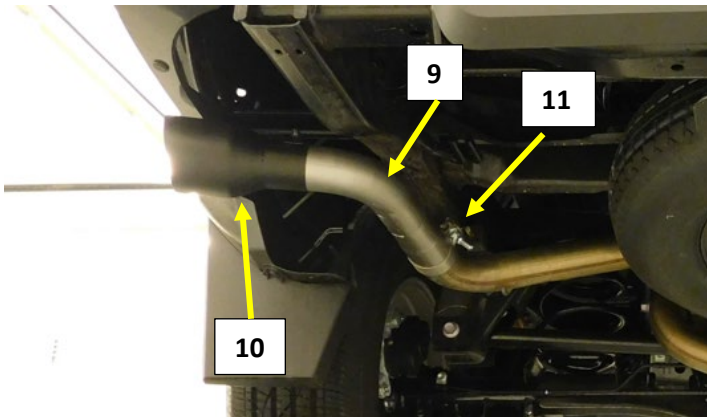

Figure.18
16. Install a 2.5" band clamp (11) on to the Side Exit (9) tail pipe extensions. Install the extension pipe on to the tail pipe and tighten the clamp to allow for adjustment. **Fig.18/19**
17. Install the ST460B (10) ceramic coated black tips on to the tail pipe extensions. Adjust the extension pipe for desired position and tighten the clamp. **Fig.18/19**